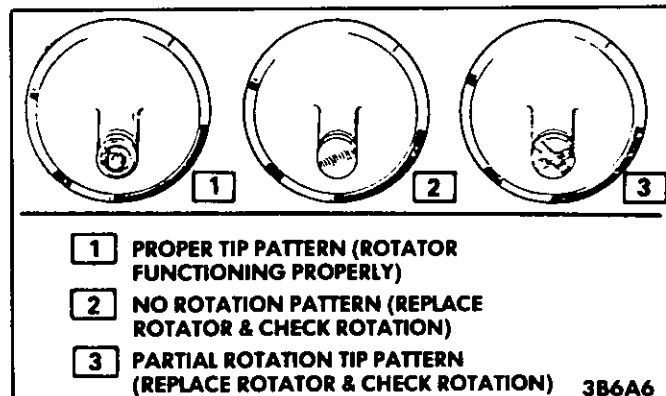

Figure 6 Valve Stem Tip Wear
- Valve stem tip for wear (Figure 6). The valve stem tip may be reconditioned by grinding. If the valve has rotators and the stem tip wear pattern indicates rotator failure, or if the rotators bind or stick, they must be replaced.